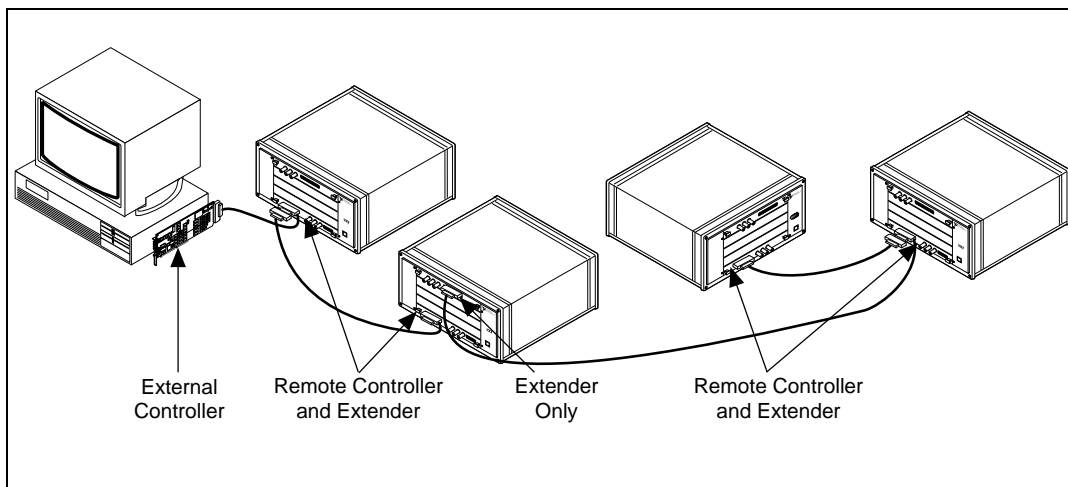

Figure 2-2. An External Controller Connected Using MXI-2 to a Number of Remote Controllers
- An external controller connected using MXI-2 to a number of remote controllers, each in a separate frame. The external controller can use the remote controllers for control of the VXI/VME system, or it can use its own controller capabilities. See Figure 2-2.